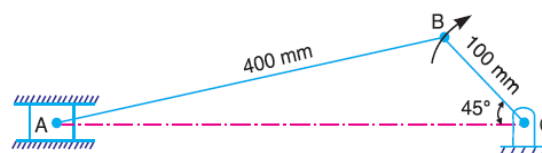

Fig. 6.12
7. Locate all the instantaneous centres of the slider crank mechanism as shown in Fig. 6.12. The lengths of crank OB and connecting rod AB are 100 mm and 400 mm respectively. If the crank rotates clockwise with an angular velocity of 10 rad/s, find: 1. Velocity of the slider A , and 2. Angular velocity of the connecting rod AB . [10M]